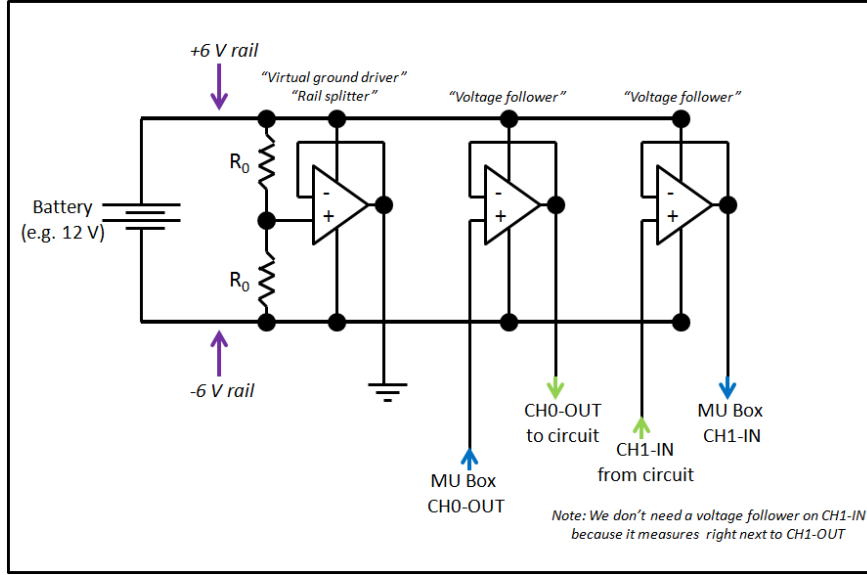

Figure 4: Circuit to power the op-amps. We split the battery voltage to power the op-amps using a voltage divider (e.g. $R_0 = 1[\text{k}\Omega]$).
Your breadboard will have two main interconnected circuits: A circuit to power your op-amps, and a circuit to measure a test impedance. Please study both parts of the circuit (Figs. 4 and 5) before you begin, so you can plan your breadboard accordingly.
1. Op-Amp circuit: Build the Op-amp breadboard that we will use to measure the loudspeaker impedance, as described below and shown in Figure 4. The purpose of the Op-amps is to isolate the measurement from the finite impedance of the MU box. The circuit diagrams of the MU box are provided in the 'DOC' folder of the software package. Based on these circuit diagrams, one may determine the Thévenin source impedance of the output voltage, and the input (load) impedance of the input circuits. There are two critical op-amps, one for output and one for input. The first input does not need an isolation Op-Amp since the output of the the first Op-Amp is zero ohms.
- Drive the circuit from CH0-OUT of the MU-box. *NOTE: If you do not use an Op-amp with a low impedance output (0 [ohms]), as described in Fig. 4, your results will not be as good as they could be.*